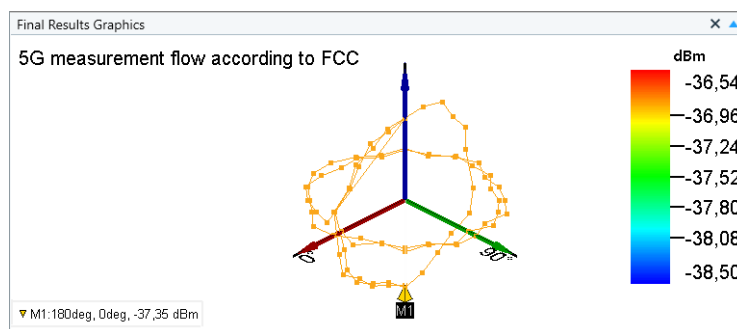

Figure 4-66: Example of test result graphics during a 5G measurement flow according to FCC
- A TRP measurement in the final measurement step, consisting of 3 spherical cuts as in Figure 4-66